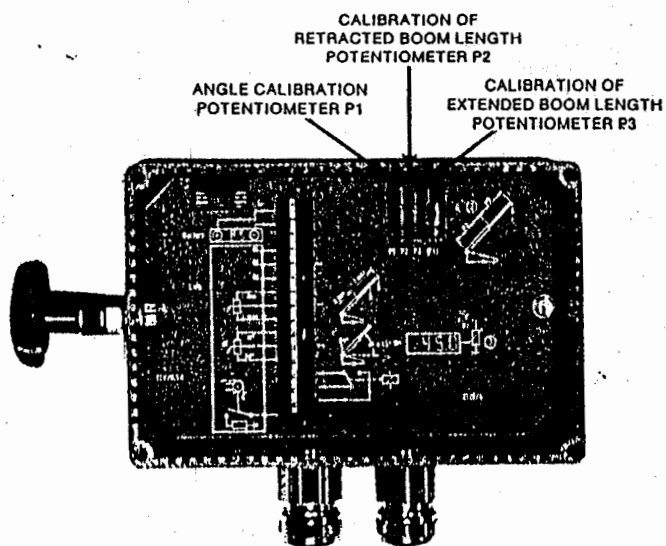

Figure 4-4. Angle Indicator Adjustment
The digital display on the console should read the length of the retracted boom. If the console reading is not correct, adjust potentiometer P2 with a small screwdriver until the reading is the length of the retracted boom. The potentiometer is located on the back of the console (see Figure 4-4).
8. Extend the boom to its maximum length. The digital display on the console should read the length of the extended boom. If the console reading is not correct, adjust potentiometer P3 with a small screwdriver until the reading is the length of the extended boom. The potentiometer is located on the back of the console (see Figure 4-4).
10. The digital display on the console should read 45. If the console reading is not 45, adjust potentiometer P1 with a small screwdriver until the reading is 45. The potentiometer is located on the back of the console (see Figure 4-4).